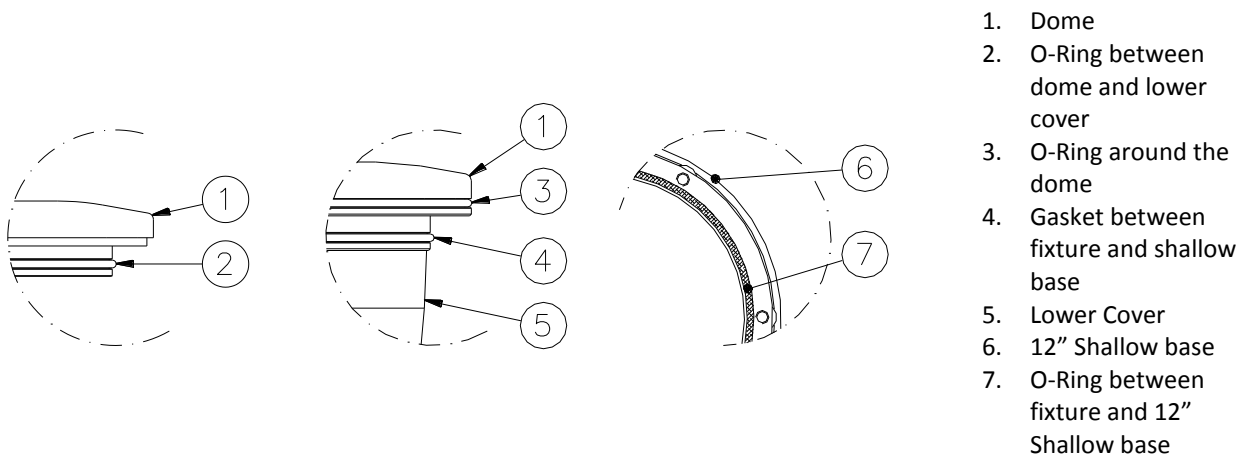

Figure 23 – Fixture Gaskets
- O-Rings between dome and lower cover (Figure 23 – n°2);
Verify the correct position of O-Ring between dome and lower cover (Figure 23 – n°2); mount the lower cover on the dome and fasten it by means the three screws HSFH M5x10 (Figure 21 - n°1). One drop of anaerobic adhesive lower type (e.g. LOXEAL 24-18) should be applied to the screws before installation; tightening torque is 2.5 Nm.
- O-Ring around the dome (Figure 23 – n°3);
- Gasket between fixture and 8" shallow base (Figure 23 – n°4);
- O-Ring between fixture and 12" shallow base (Figure 23 – n°7);